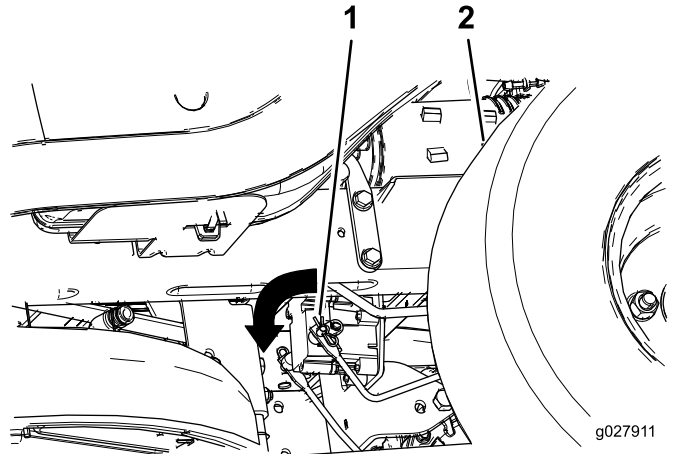

Figure 42
2. Locate the shaft on the electric brake where the brake link arms are connected (Figure 42).